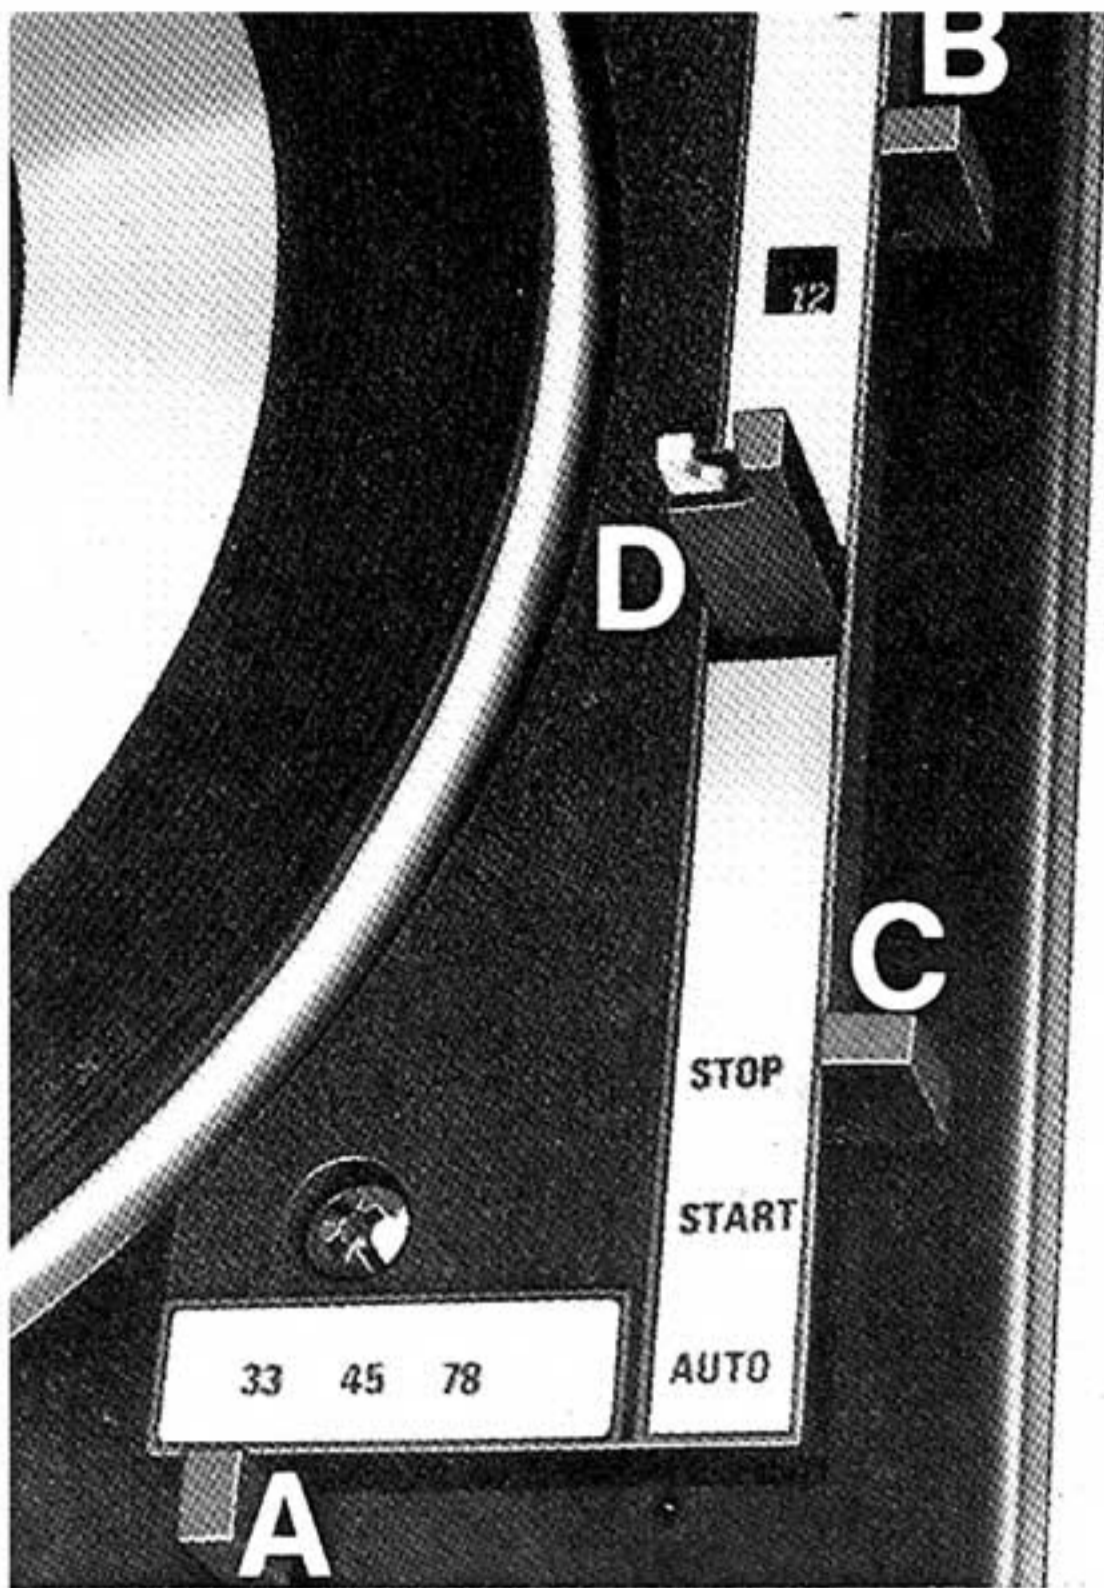
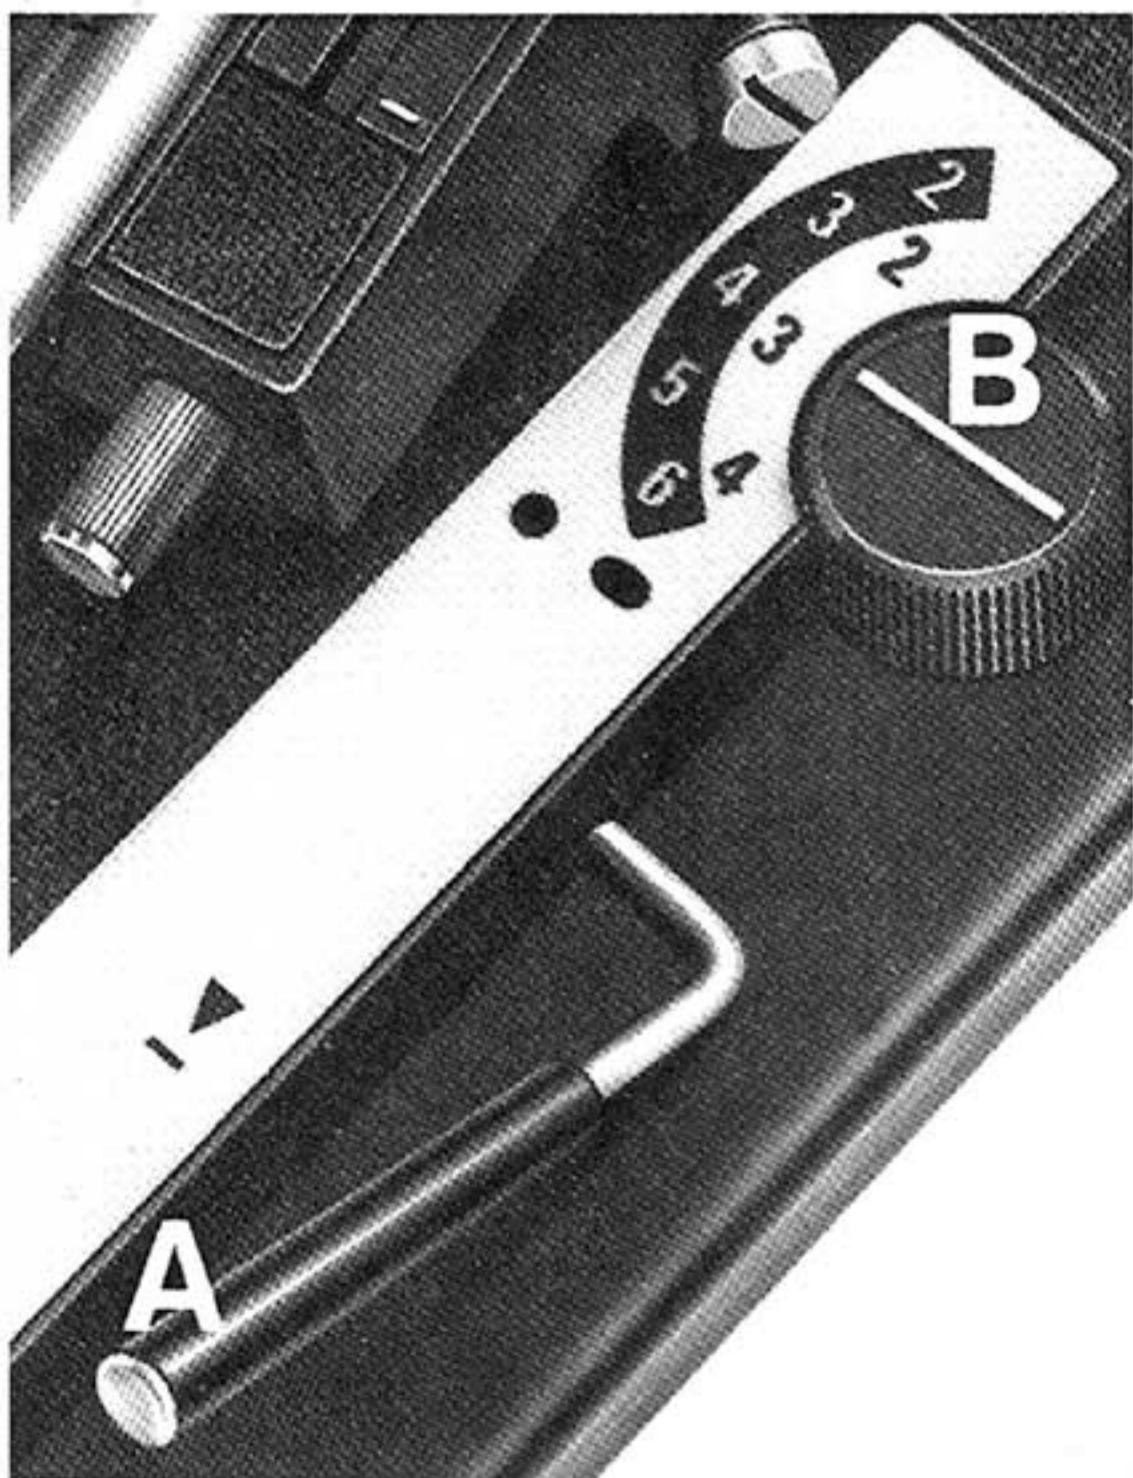

Fig. 1 CONTROL PANEL WITH AUTOMATIC PICK-UP LOCK
Fig. 2 CUEING LEVER AND BIAS COMPENSATOR
3. To Start. Move the starting lever (Fig. 1, C) to the AUTO position and hold there momentarily until the turntable revolves, then let it return gently to the START position.
5. To Stop. After playing the last record the unit will shut off automatically. If it becomes necessary to stop the unit during play, raise the cueing lever (Fig. 2, A) and move the pick-up arm above the pick-up rest (Fig. 1, D), lower the cueing lever and move the starting lever to the STOP position.
NOTE: To **interrupt** the record, raise the cueing lever (Fig. 2, A) to lift the pick-up arm. When the cueing lever is lowered, the pick-up will descend to the record and resume playing in the same groove.
- Move the speed control (Fig. 1, A) against the required speed.
- Set record size selector (Fig. 1, B)